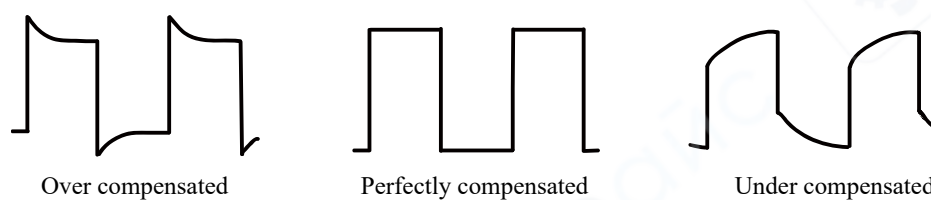

Figure 4.12 Probe Compensation
2. Check the displayed waveforms and compare them with the waveforms shown in *Figure 4.12*.
- Use the probe compensation adjustment tool provided in the accessories to adjust the low-frequency compensation adjustment hole on the probe until the displayed waveform is consistent with the "Perfectly compensated" waveform shown in *Figure 4.12*.